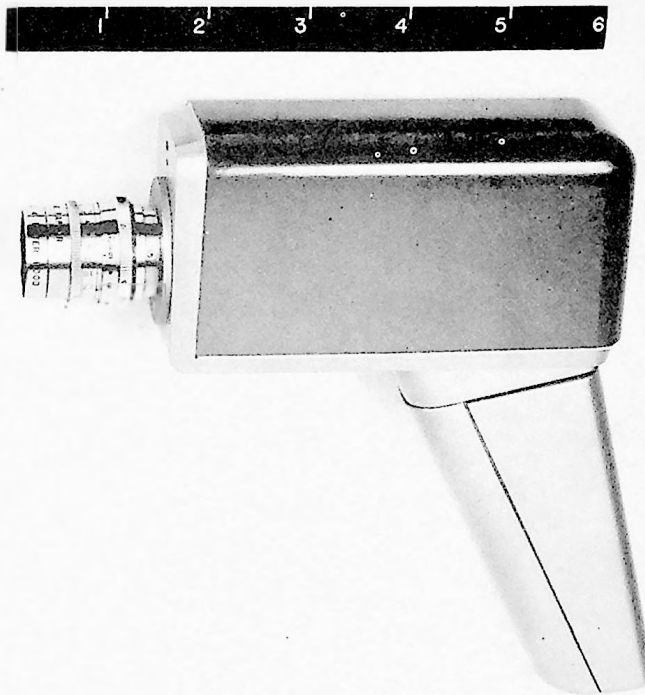

Figure 12. JTV-1 hand television camera.
b. JTV-1 Hand Camera. The JTV-1 camera is an ultraminiature, hand-held television camera which is used for remote field operation (fig. 12). It weighs about 2 pounds and measures 2-3/8 by 1-7/8 by 4-1/2 inches. The resolution of the received picture is equal to that of a standard home television receiver.